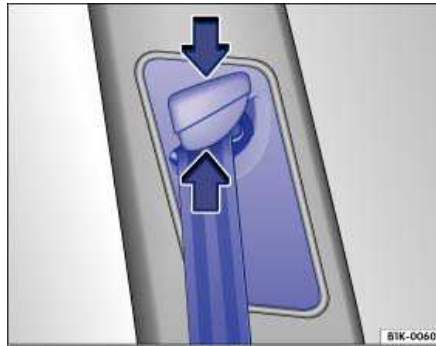

Fig. 69 Next to the front seats: Safety belt height adjuster.
- Press and hold the safety belt attachment ⇒ fig. 69.
- Pinch the safety belt attachment together as indicated by the arrows and slide the seat belt attachment to the desired position ⇒ fig. 69.